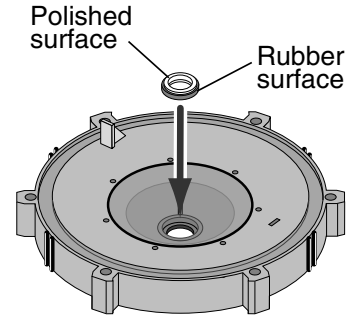

Figure 11
1. Ceramic seat must be clean and free of dirt, grease, dust, etc. Wet outer edge with small amount of liquid detergent; press ceramic seat into seal plate cavity firmly and squarely with finger pressure (Figure 11).